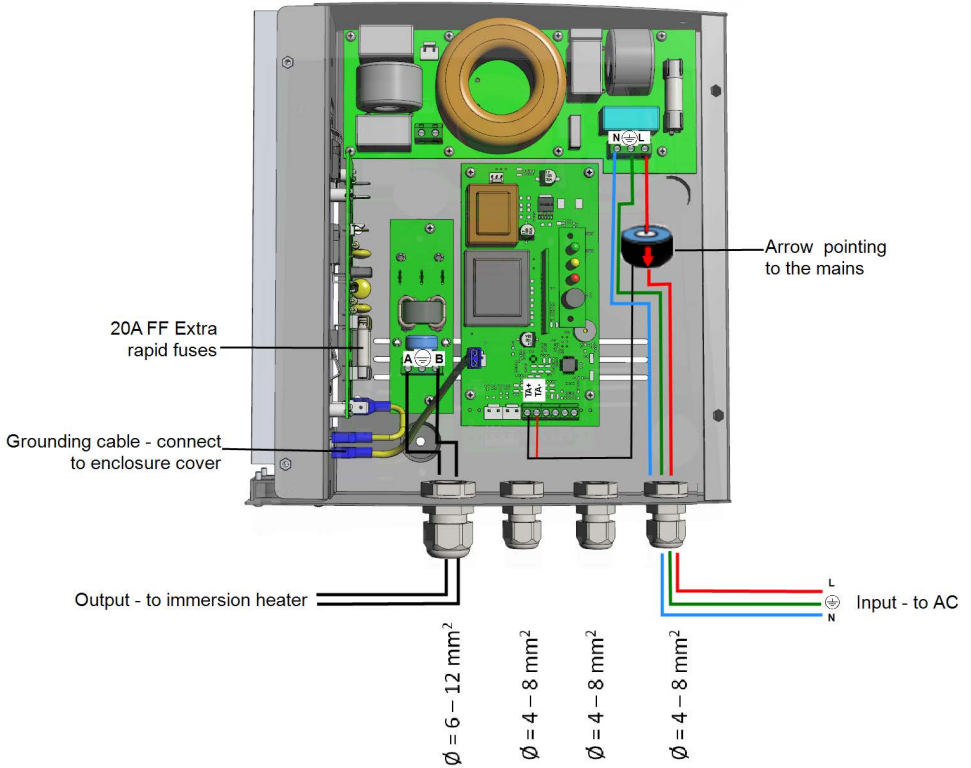

Figure 3: Smart Energy Hot Water connections
- Refer to *Figure 3*.
Do not connect the device *output* (labeled A & B) to the grid, as this will damage the product. Connect the AC grid to the designated *input* only (see *Figure 3*).